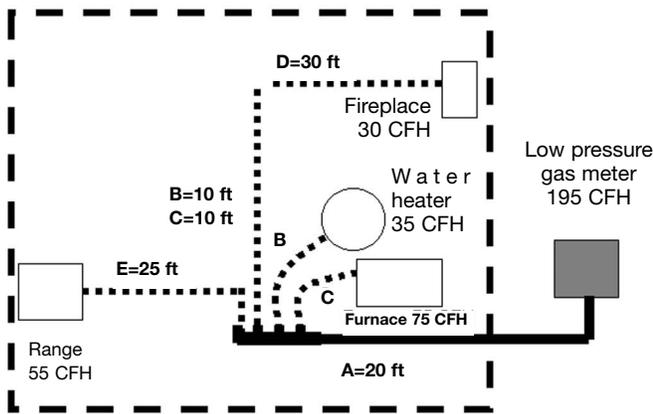

Figure: 3-7
1. The system presented in Figure: 3-7 is typical of a residential installation with four appliances. The supply pressure is 7-8 inches water column. The system will be sized with 0.5 inches w. c. drop for the steel pipe trunk line and 1 inch w.c. drop for the **CounterStrike®** branches. (**Note:** confirm that pressure drops larger than 0.5 inches water column are permitted in the local jurisdiction).